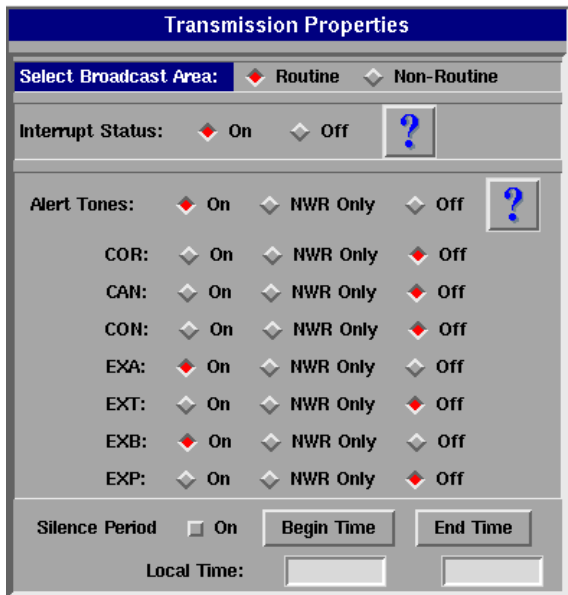

Figure 4a – VTEC transmission properties
The right hand side of the GUI interface contains the “Transmission Properties” section of settings (Figure 4a and 4b) for both VTEC and non-VTEC products.
**leave the default settings of “On” for the “Alert Tones” option, and for the VTEC options of “EXA” and “EXB” as shown on the left-hand side of Figure 4a.** By default, for all short-fuse warning products listed in Directive 10-1710, alert tones come in NWRWAVES set to “On” for initial issuance, as well as for extensions in area (EXA), and extensions in both area and time (EXB).